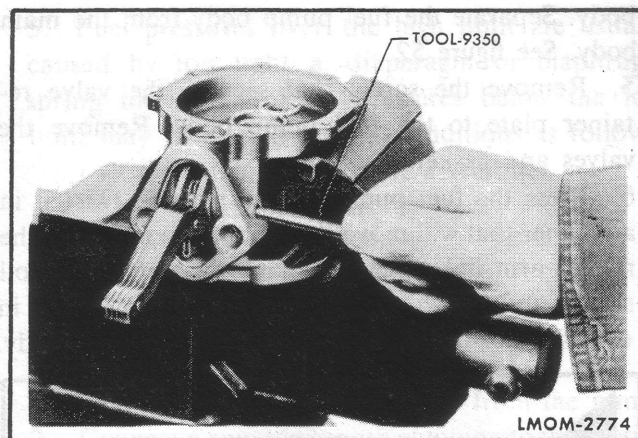
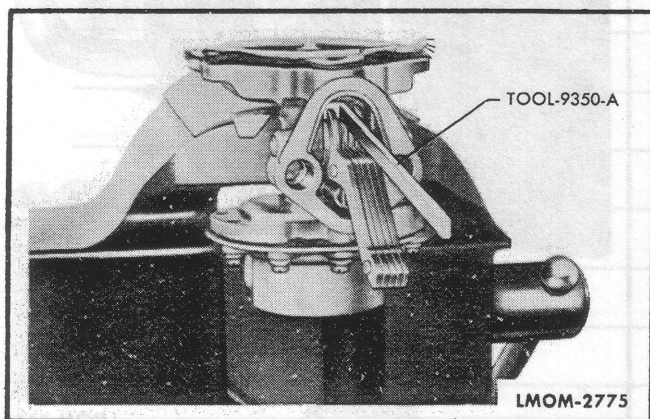

Fig. 58—Hold Arm Assembly in Place with Tool 9350.
Fig. 59—Hold Vacuum Diaphragm in Position with Tool 9350-A.
6. Place a flat washer on each end of rocker arm bushing. Place rocker arm spring in position. Insert arm assembly into the main body and hold in place with the small diameter end of Tool 9350. See figure 58.
11. Hold main body so that vacuum side faces downward. Jar the body to cause the rocker arm diaphragm operating links (2) to fall towards the vacuum diaphragm side.
13. Hold the vacuum diaphragm assembly in place while clamping the pump body in a vice. Push on the rocker arm until the diaphragm is level with the flange. Insert the hook end of Positioning Tool 9530-A between the rocker arm and rocker arm stop. See figure 59. This will hold the vacuum diaphragm level with the surface of the main body until the vacuum pump body is installed.